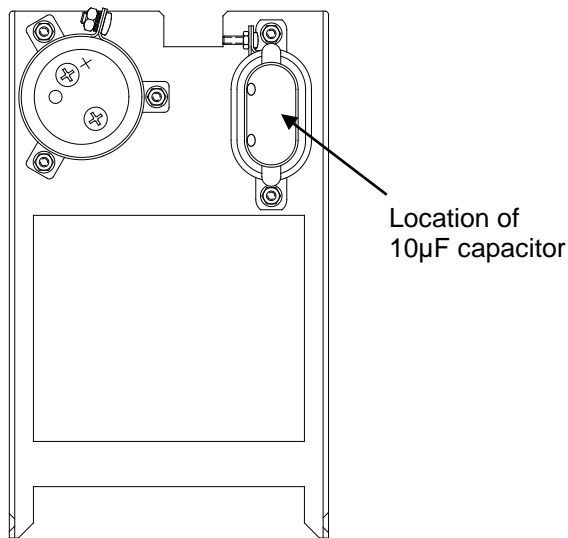

Figure 16 - 10 μ F Capacitor
1. Locate the 10 μ F capacitor mounted to the chassis of the power supply (see Figure 16).